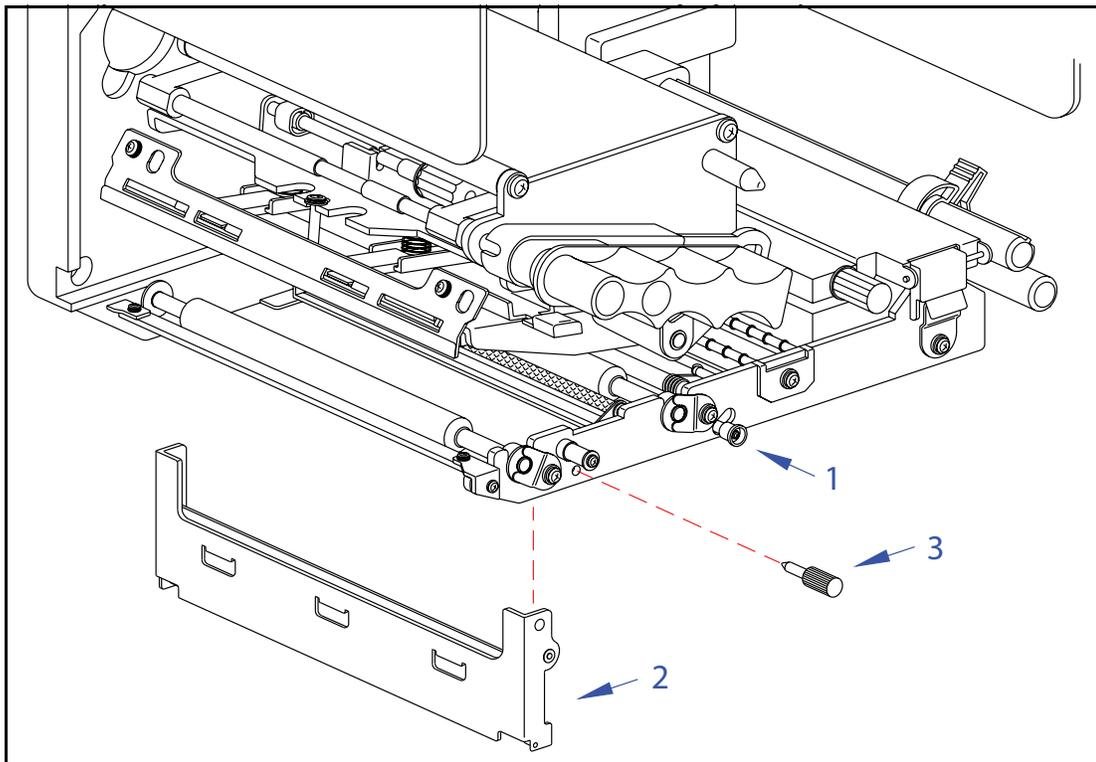

Figure 117: Accessing the printer's chassis
To gain access to the printer’s chassis (Figure 117), push purple release button (1) to drop pressure roller plate (2) downward. If the plate must be removed, take out the thumbscrew (3).